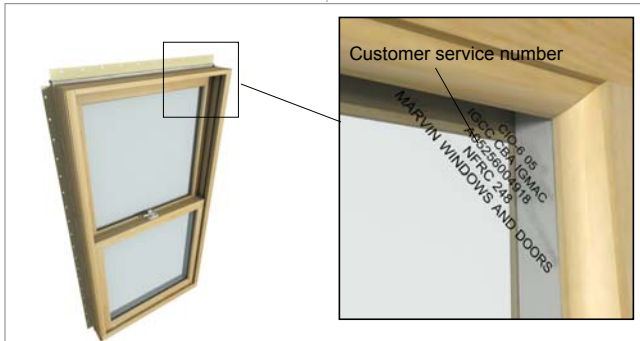

Figure 4
1. Remove the protective packaging from the unit and dispose/recycle properly. Inspect unit for any hidden damage and report immediately to your Marvin representative. Provide the customer service number etched on one of the top corners of the glass. See figure 4.